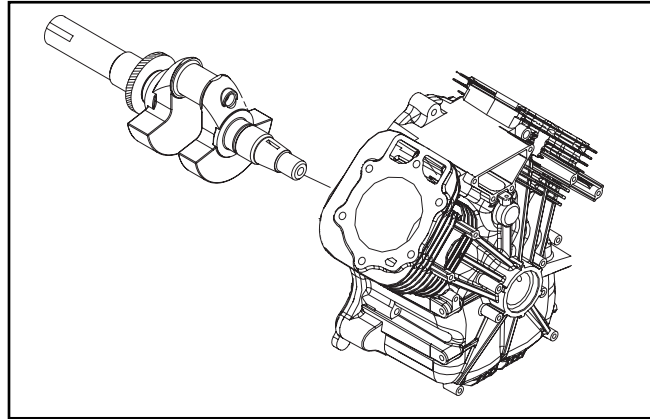

Figure 9-5. Remove Crankshaft
6. Remove crankshaft (Figure 9-5).